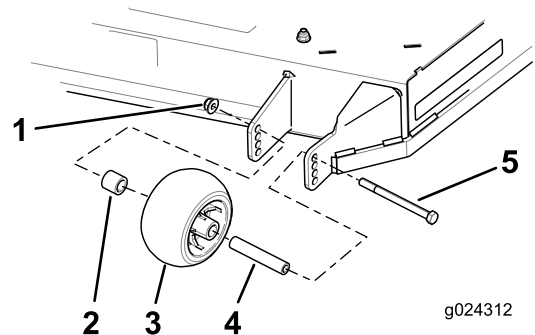

Figure 25
3. Remove the flange nut, anti-scalp roller and bolt from the bracket (Figure 25).
4. Align the bolt and anti-scalp roller in the hole of the bracket that matched the closest height of cut position (Figure 25).
5. Insert the bolt into the bracket hole and secure the bolt and anti-scalp roller with the flange nut (Figure 25).